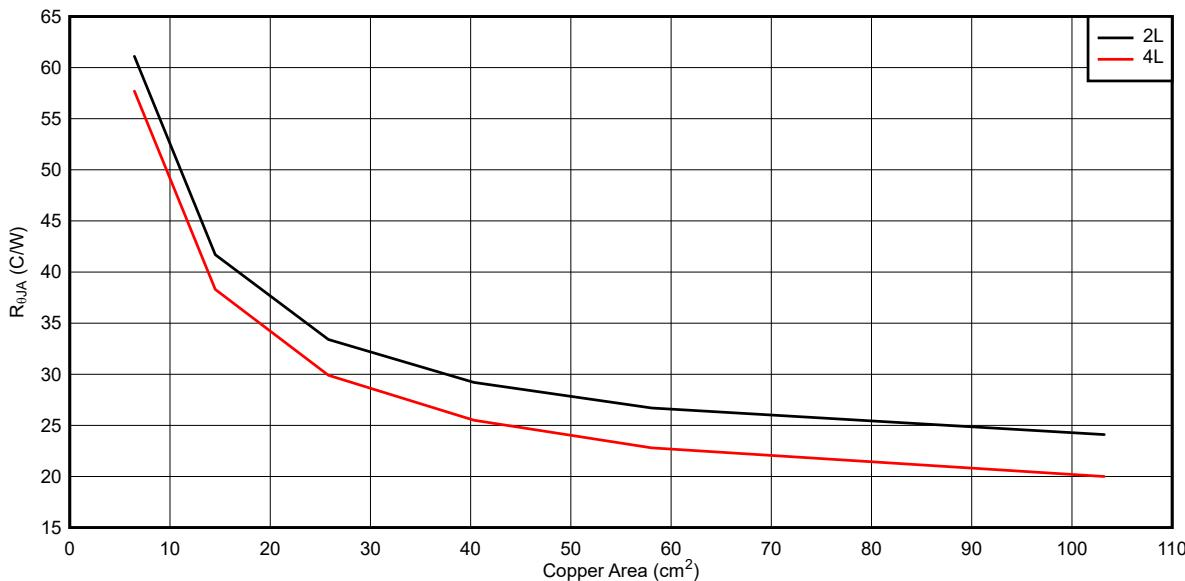
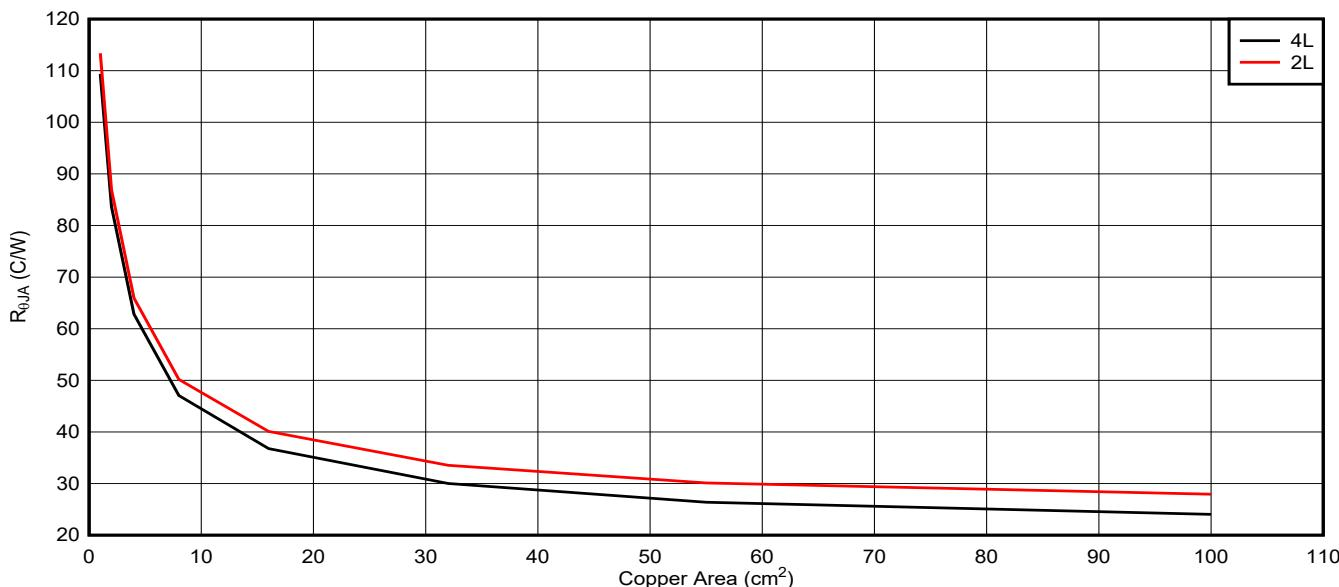
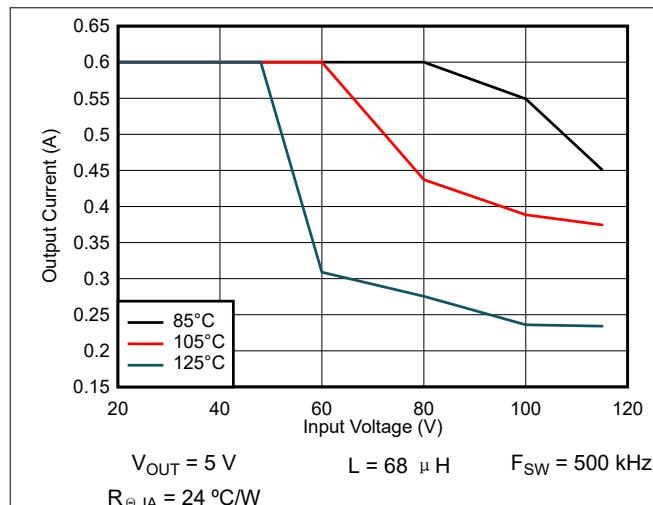
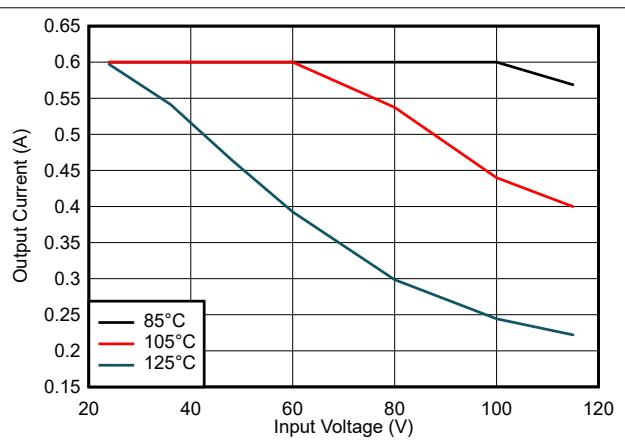

图 8-33. Typical  $R_{\theta JA}$  Versus Copper Area for DDA package
图 8-34. Typical  $R_{\theta JA}$  Versus Copper Area for NGU package
图 8-35. Maximum Output Current:  $V_{OUT} = 5\text{ V}$
图 8-36. Maximum Output Current:  $V_{OUT} = 12\text{ V}$
The LM516x features a die attach paddle, or "thermal pad" (EP), to provide a place to solder down to the PCB heat-sinking copper. This provides a good heat conduction path from the regulator junction to the heat sink and must be properly soldered to the PCB heat sink copper. Typical examples of  $R_{\theta JA}$  can be found in 图 8-33 and 图 8-34. The copper area given in the graph is for each layer. The top and bottom layers are 2-oz copper each, while the inner layers are 1 oz.
The data in 图 8-35 and 图 8-36 can be used as a guide to determine the maximum output current for a given set of conditions. The particular conditions under which these graphs were taken are indicated in the notes below each graph.
Remember that the data given in 图 8-33 through 图 8-36 is for illustration purposes only, and the actual performance in any given application depends on all of the previously mentioned factors.